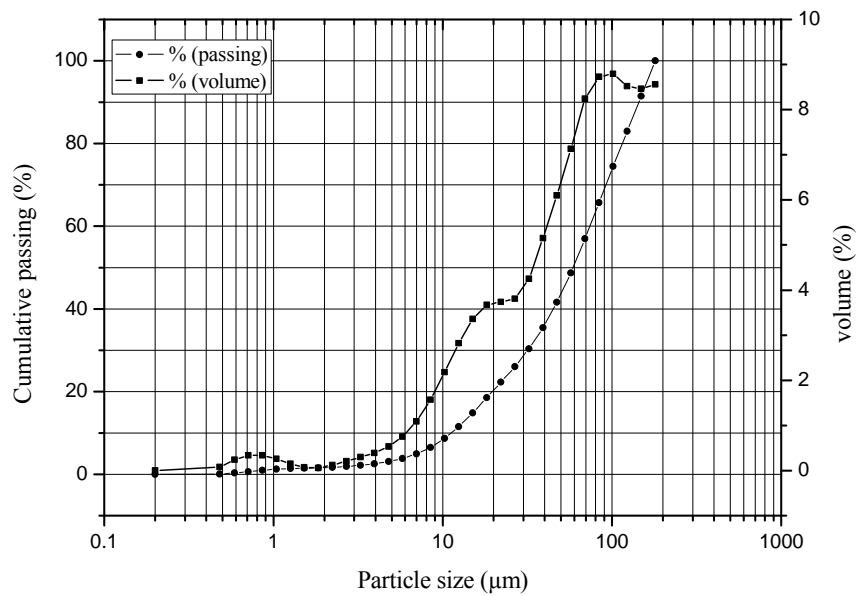

Figure 6: PSD of ground LGMO  $\leq 75\mu\text{m}$ ; cumulative and volume distribution curves.
Figure 9: Percentage of liberation obtained from image analysis of particles as per Figure 6 (e-i), i.e., particle size fractions of  $(-350+250)$   $\mu\text{m}$ ,  $(-250+150)$   $\mu\text{m}$ ,  $(-150+75)$   $\mu\text{m}$ , and  $-75$   $\mu\text{m}$ , respectively. Percentage of liberation was calculated as per equation (2) in section 2.6.